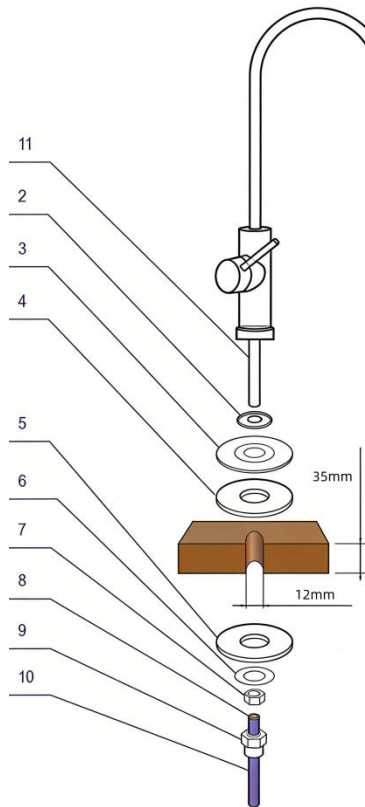

Figure 8. Purified Water Faucet Connection Tube Steps
2. Slide the rubber gasket (2), decorative base (3), and rubber gasket (4) sequentially onto the threaded tail of the faucet (11), then insert the faucet into the hole in the sink.
3. Below the sink, slide the plastic (5) and metal (6) locking washers onto the threaded bushing, then screw on the tightening nut (7).
4. Slide the locking nut (9) onto the plastic tube (10) with the pressed-in metal bushing (8) (Fig. 8), then screw the nut onto the tail of the faucet.